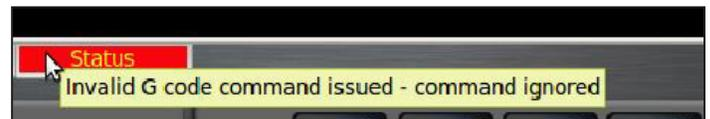

**Figure 5.39**
**Error Messages** – The left hand side of this screen consists of a scrolled text box that displays any error messages that occur. For instance, attempting to enter an MDI command that moves the axes before referencing the machine generates an error message (see **Figure 5.39**).
Pressing the *F1* key temporarily switches from the current screen to the *Status* screen, allowing the operator to quickly scan the error message. Releasing the *F1* key returns PathPilot to the previous screen. A history of error messages is displayed in the scrolled Error Message Text Box (see **Figure 5.39**) with the most recent error messages displayed at the top. If desired, the operator may clear the message history using the *Clear Error Messages* button. The entire history is also saved in a log file, found in the *G-code/logfiles* directory.
**Diagnostic LEDs and Counts** – On the upper right-hand side of the *Status* screen are Diagnostic LEDs (see **Figure 5.39**) used for troubleshooting purposes that should not be needed in normal operation.